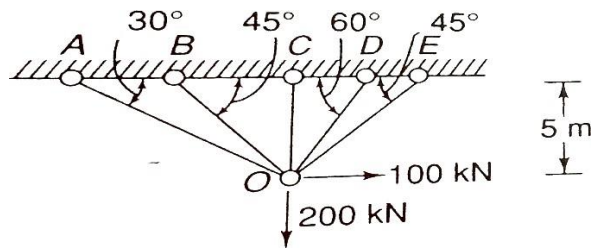

Figure 3.9
**9** Analyze the pin-jointed structure shown in Figure 3.9 by flexibility matrix method.